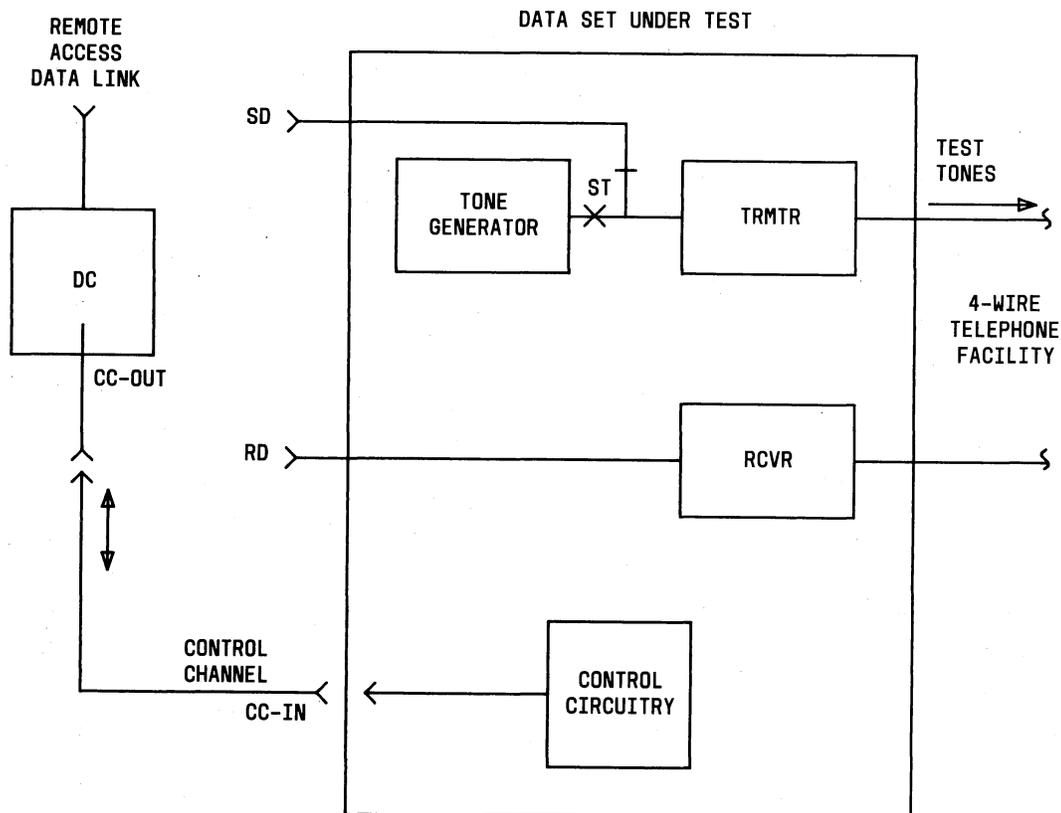

Fig. 8—Send Test Tone
3.50 This is a nontimed disruptive series of tests (Fig. 8) which can be directed to any data set in the network. Three subtests (1004 HZ TONE, 1804 HZ TONE, and 2804 HZ TONE) are used to direct a data set to send a tone continuously at the frequency selected. The fourth subtest (CLEAR TONE) turns off the tone being sent.